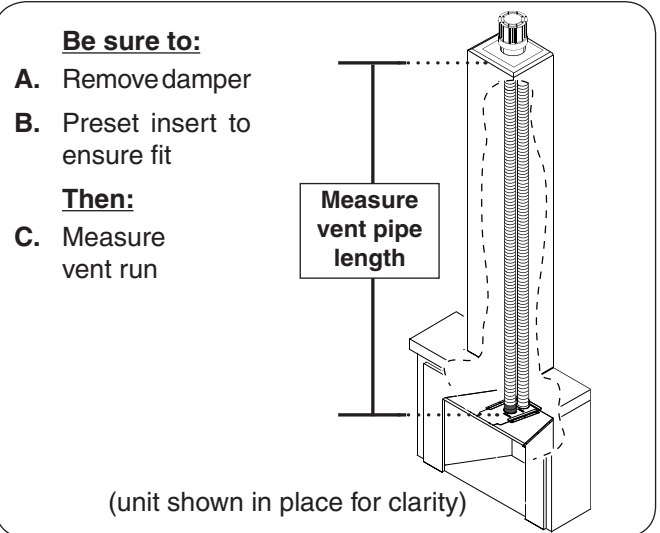

Fig. 21-1 Prepare fireplace & measure pipe length
3. Measure from the top of the chimney down to the location that the top of the insert / vent adapter will rest when installed (see Fig. 21-1).